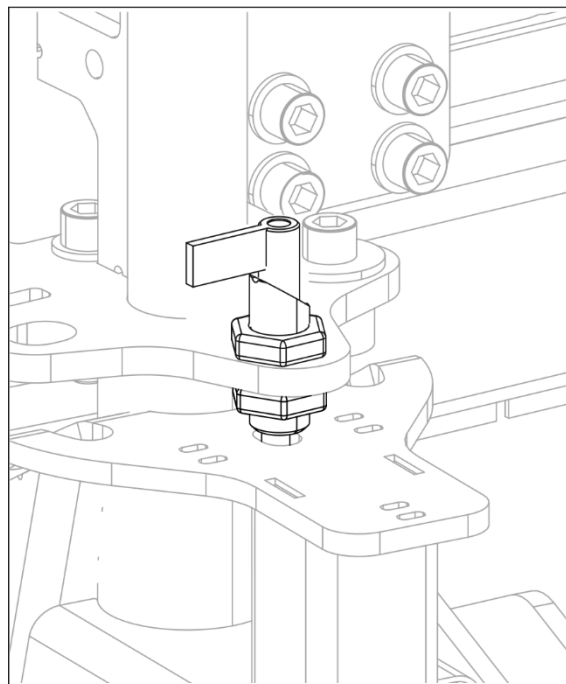

Figure24 : Locking bolt, unlocked
7. Unlock the locking bolts on the undercarriages, see figure 24.